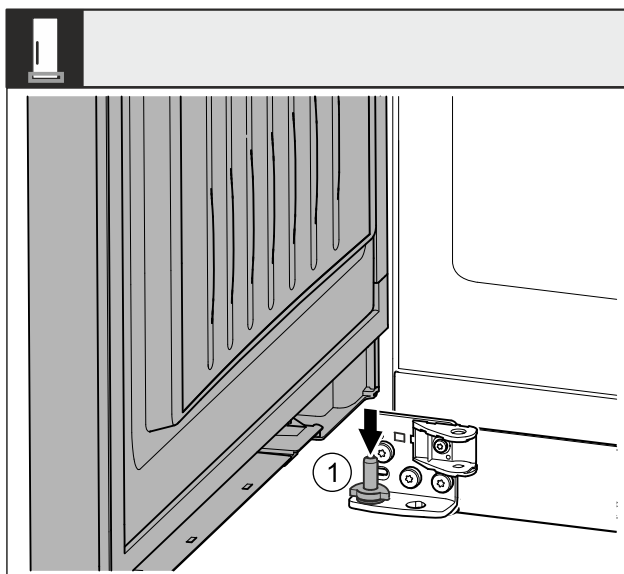

Fig. 42 *
- Lower the door onto the bottom bearing bolt Fig. 42 (1).*